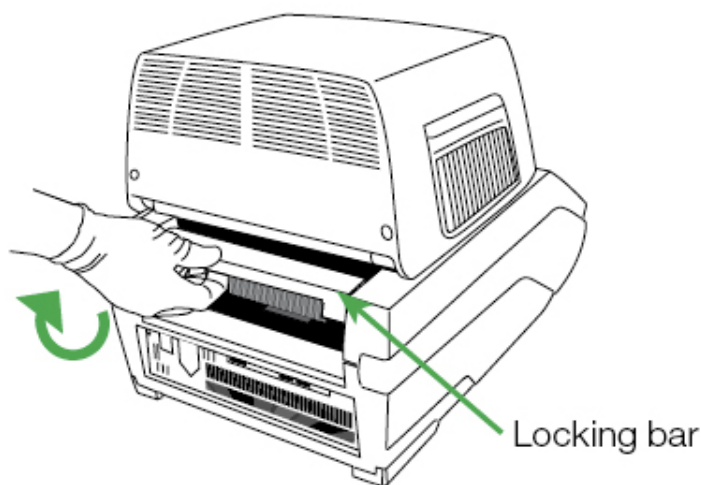

Figure 5. Locking the optical module into place.
4. Reach around and pull up the locking bar of the C1000 thermal cycler until it is flush with the sides of the module bay. This action moves the module forward, locking it into place (Figure 5)